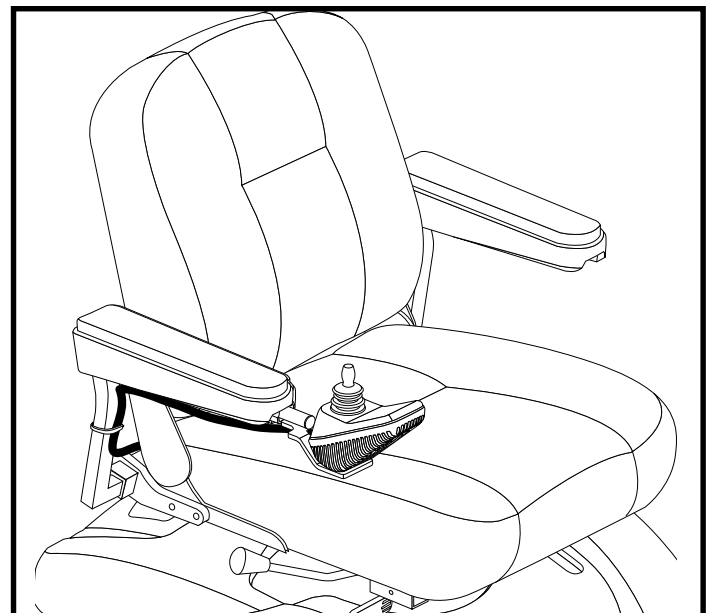

Figure 11. Cable Routing
3. Install the controller and route the cable to the back of the power base. See figure 11.
5. Secure the controller cable to the armrest receiver with wire ties. See figure 11.
10. Use a wire tie to secure the controller cable to the armrest. See figure 11.